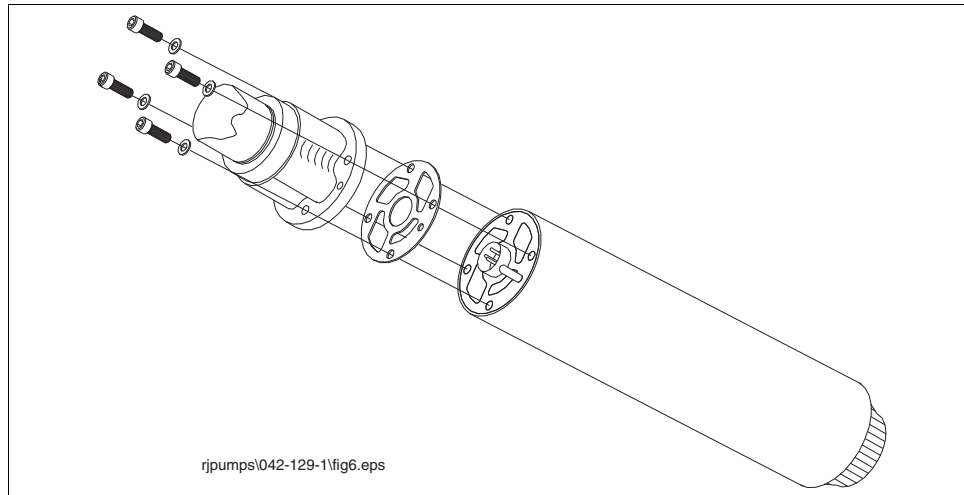

Figure 7. Aligning The UMP Gasket
1. Place the new gasket on the new UMP so that all holes align (see Figure 7).
4. Install the UMP retaining bolts and lock washers (see Figure 7). Snug and then torque the bolts using a cross pattern. Torque to 7 ft-lb. (11 N•m).